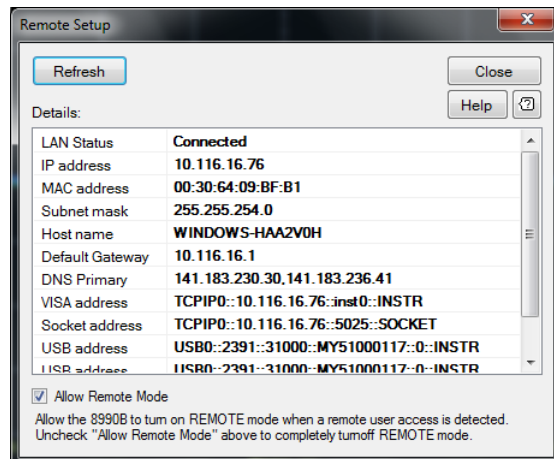

Figure 2-163 Remote Setup dialog
- 2 The Remote Setup dialog is displayed as shown in Figure 2-163. The remote setup parameters are listed in the Remote Setup dialog.